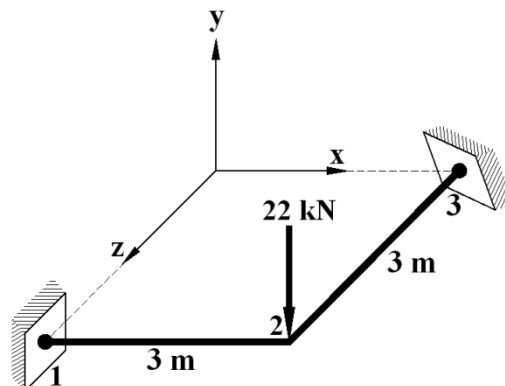

Figure P3.14
14. Analyze the grid shown in **Figure P3.14**. The grid consists of two elements, is fixed at nodes 1 and 3, and is subjected to a downward vertical load of 22 kN. The global coordinates axes and element length are shown in the figure. Let $E = 210 \text{ GPa}$, $G = 84 \text{ GPa}$, $I = 16.6 \times 10^{-5} \text{ m}^4$ and $J = 4.6 \times 10^{-5} \text{ m}^4$.